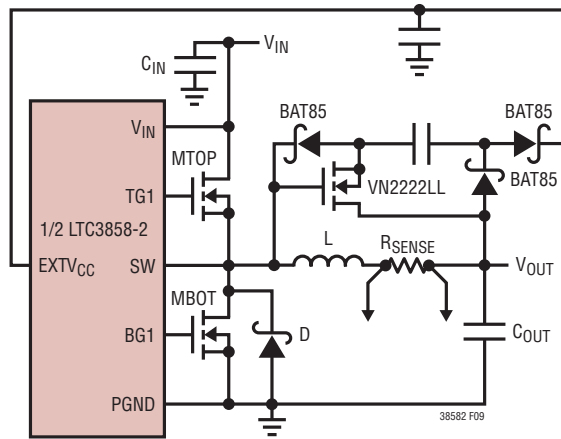

Figure 9. Capacitive Charge Pump for EXT_{VCC}
4. EXT_V_{CC} Connected to an Output-Derived Boost Network. For 3.3V and other low voltage regulators, efficiency gains can still be realized by connecting EXT_V_{CC} to an output-derived voltage that has been boosted to greater than 4.7V. This can be done with the capacitive charge pump shown in Figure 9. Ensure that EXT_V_{CC} < V_{IN}.